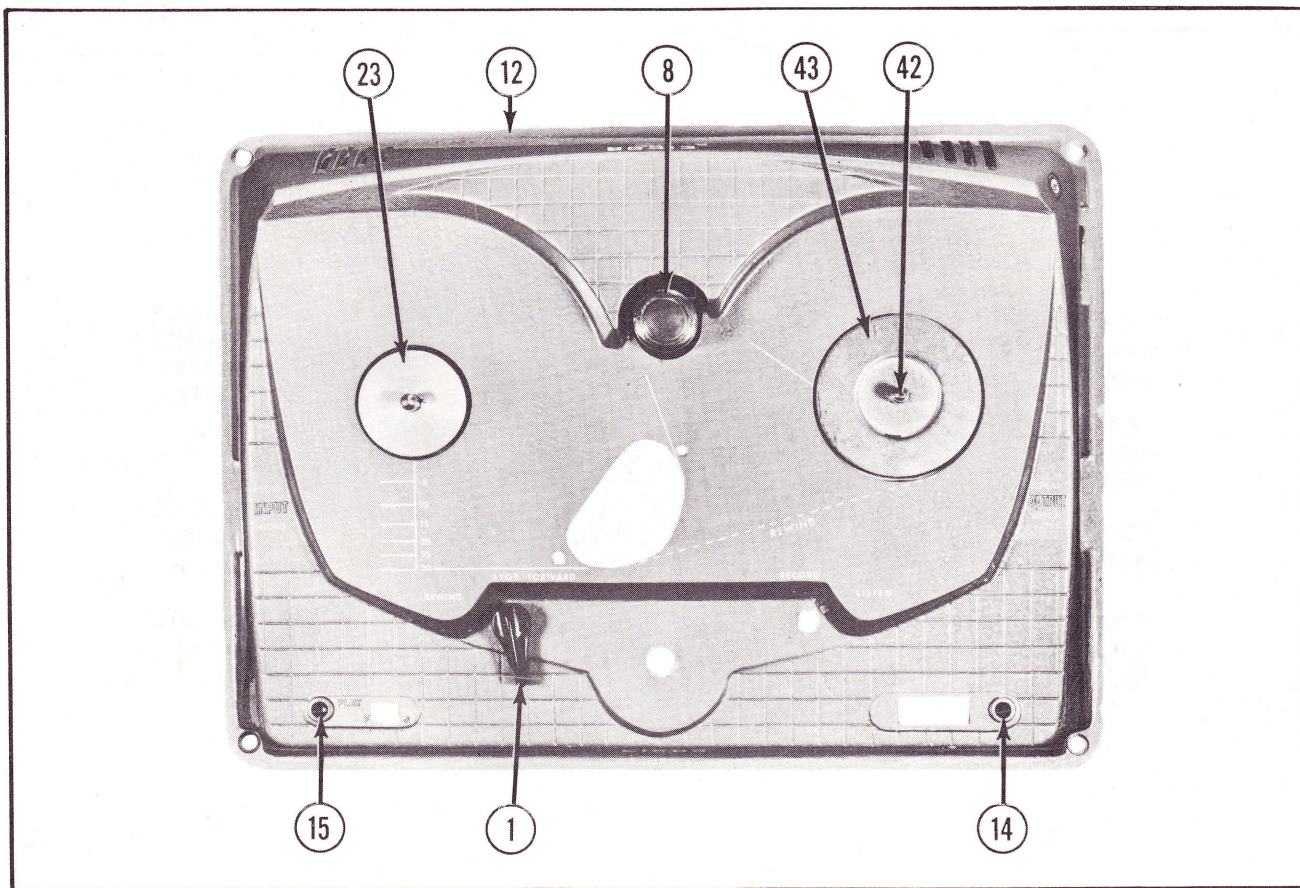

Figure 2
2. Thread the tape by following the solid printed line on the top panel (Figure 2).